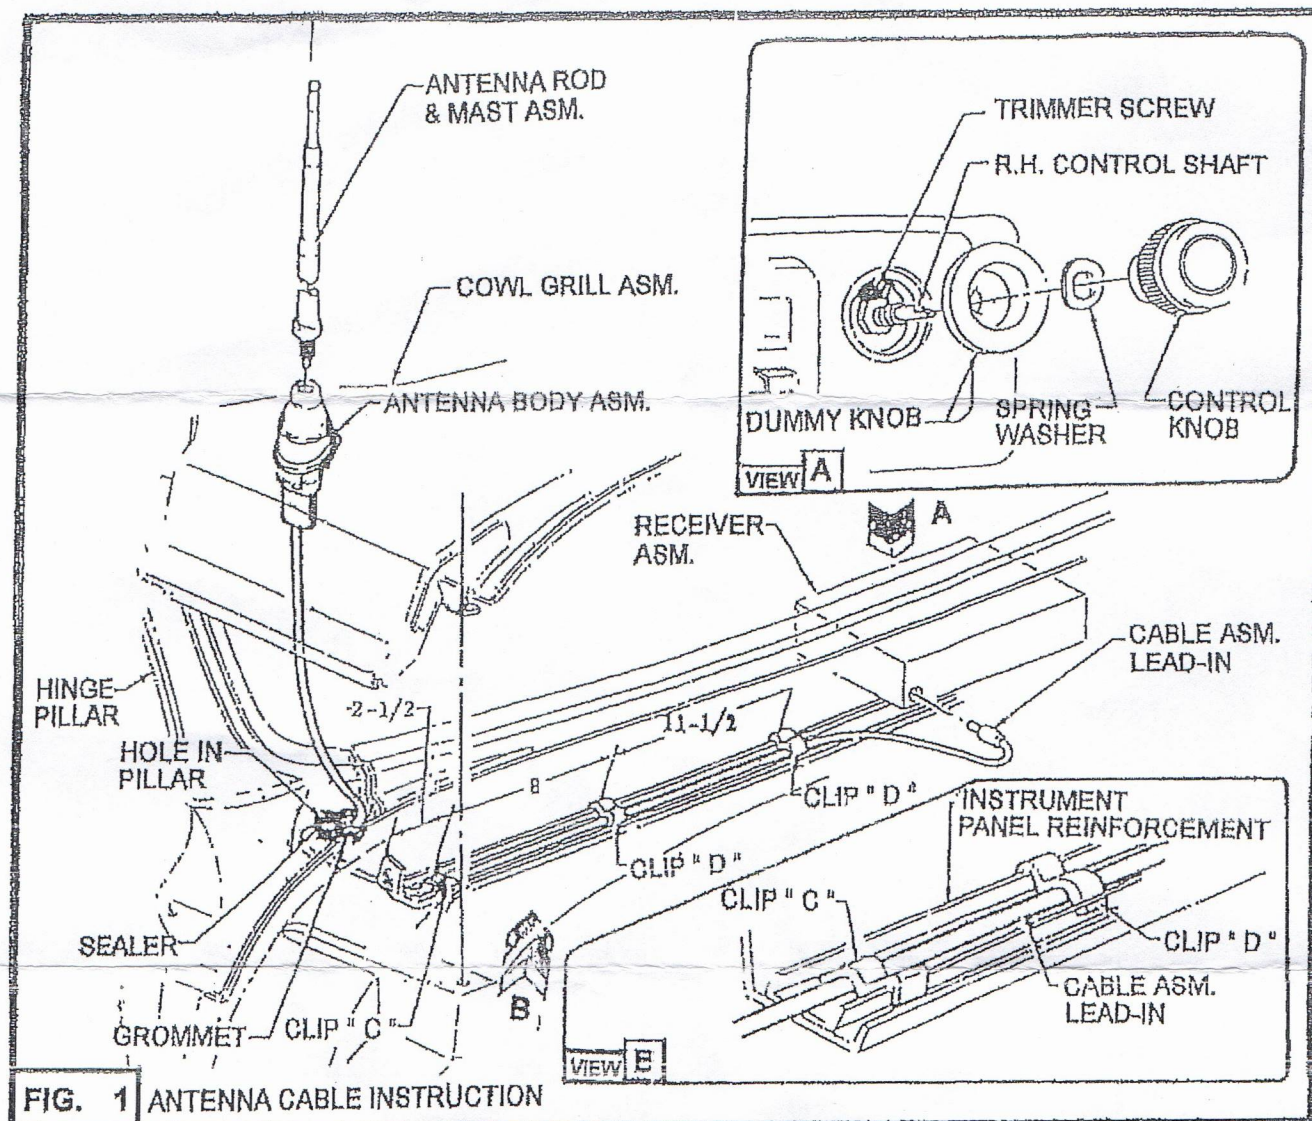

FIG. 1 ANTENNA CABLE INSTRUCTION
STEP 3 ALIGN & TAPE TEMPLATE ON R.H. SIDE OF COWL GRILLE ASM, CENTERPUNCH, REMOVE TEMPLATE, DRILL HOLE & FILE NOTCH AS INSTRUCTED ON TEMPLATE. SEE FIG. 1.
STEP 1 ROUTE CABLE ASM. LEAD-IN THRU GROMMET. APPLY SEALER TO GROMMET & PILLAR HOLE. ROUTE CABLE ASM. LEAD-IN THRU PILLAR HOLE SECURING GROMMET IN HOLE. SEE FIG. 1.
STEP 3 INSTALL ROD & MAST ASM. SECURELY INTO ANTENNA BODY ASM. SEE FIG. 1.
STEP 4 ROUTE CABLE ASM. LEAD-IN ALONG INSTRUMENT PANEL REINFORCEMENT & PLUG INTO BACK OF RECEIVER. SECURE CABLE TO INSTRUMENT PANEL REINFORCEMENT WITH CLIPS "C" & "D". SEE FIG. 1 & VIEW B.